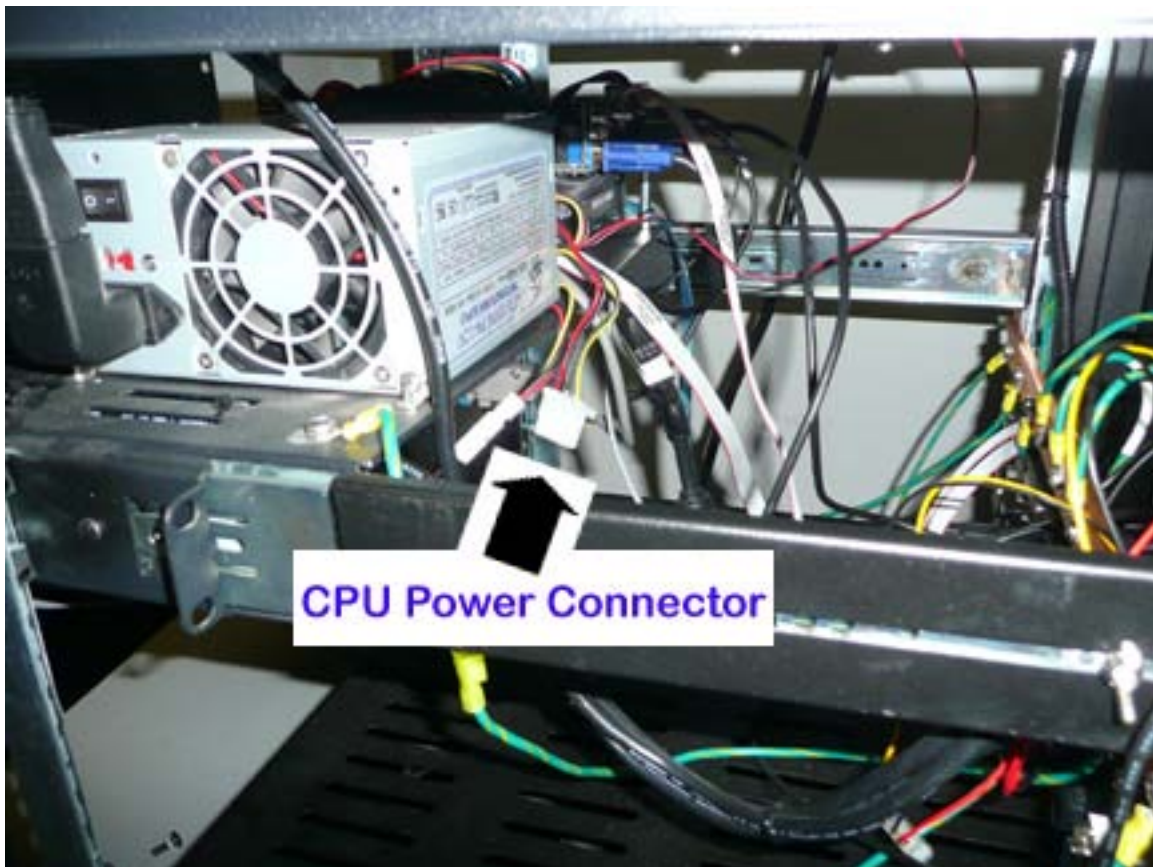

Figure 22. CPU Power Connector
19. Figure 22 shows the CPU power connector on the top shelf of the CDP rack without any other devices attached. Connect the other end of the power cable from the Remote Unit to this CPU power connector. The next step describes how to use the Y-cable (M491862-00) to supply power to the Remote Unit if this CPU power connector is already in use.